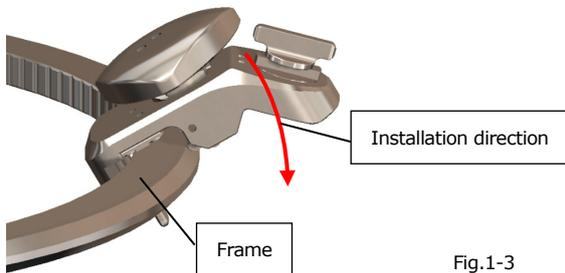

Fig.1-3
(1)-3 Install the Retractor Slide Adjustor II over the frame (Fig.1-3).